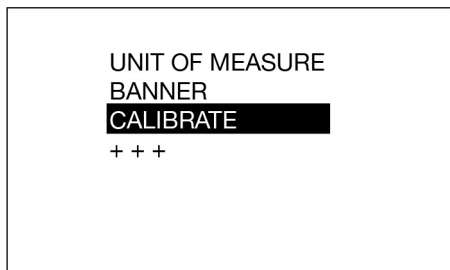

FIG. 14
- Use the UP or DOWN ARROW button on the keypad to highlight CALIBRATE (FIG. 14) and then press the center ENTER button on the keypad to select the CALIBRATE option.